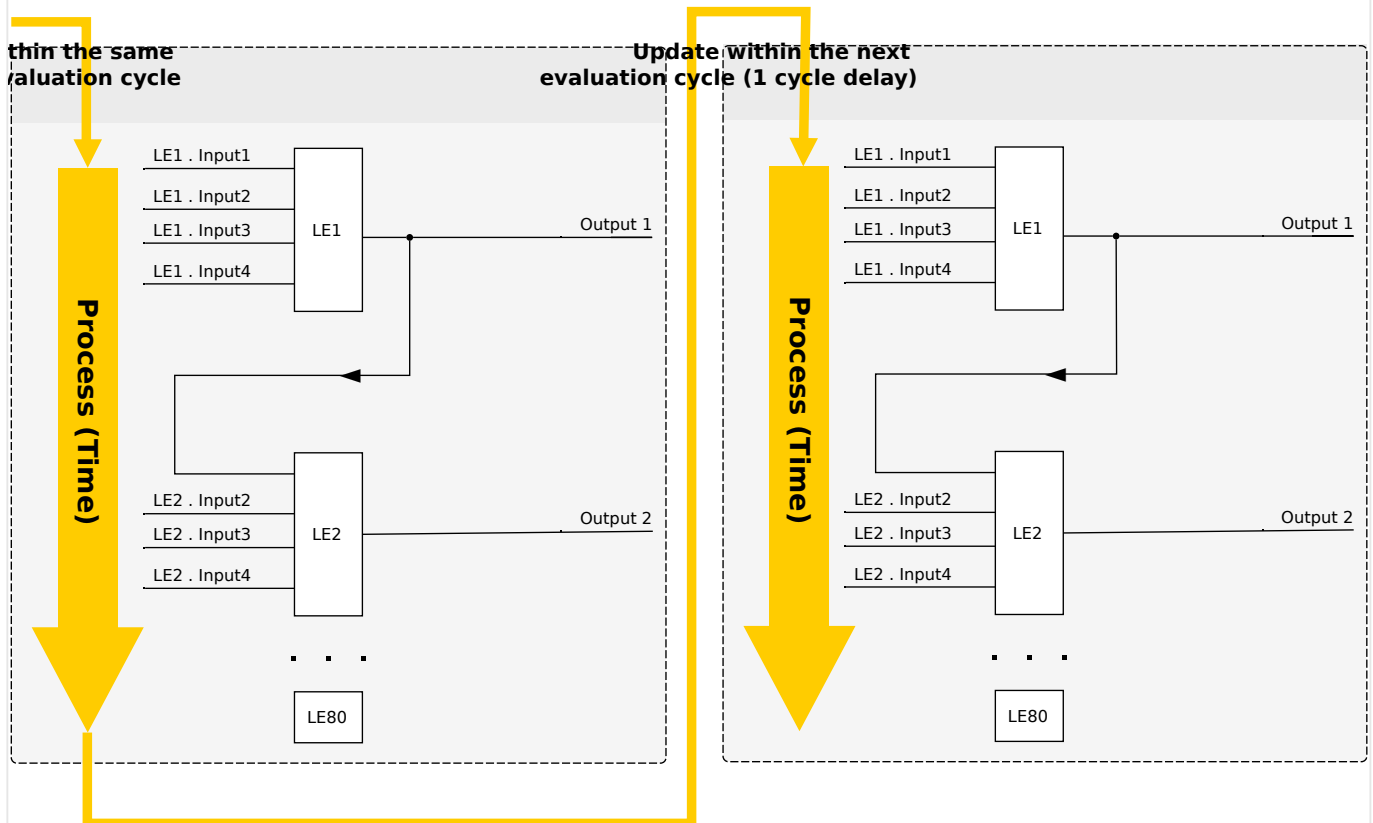
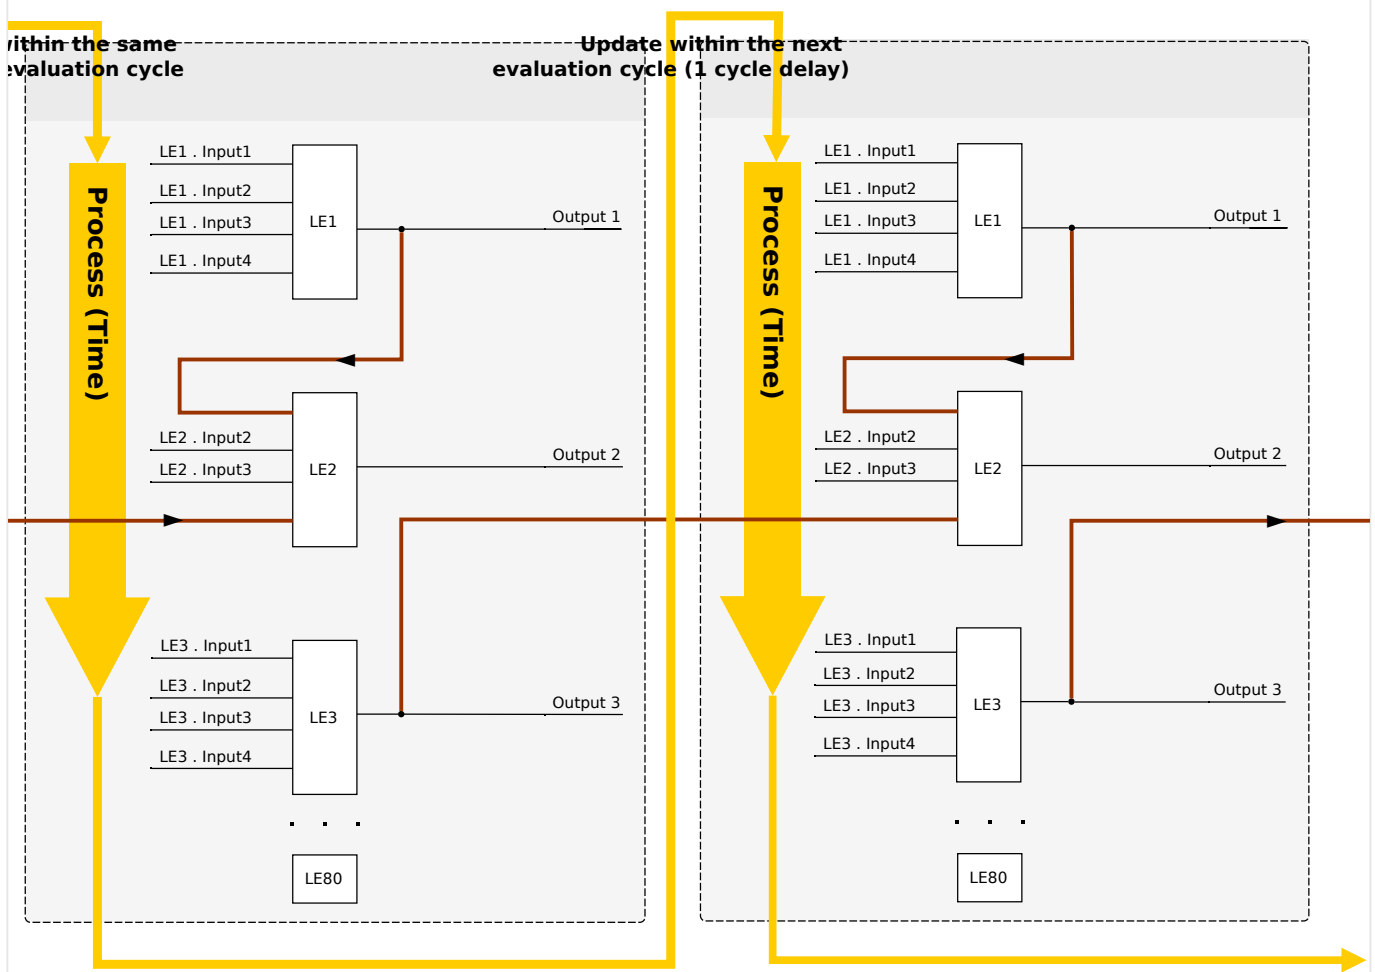

Fig. 160: Cascading in Ascending Order.
Fig. 161: Cascading in Descending Order.
- **Ascending** sequence means that some output is fed into the input of a logic equation with **higher** number. For instance, diagram ↪Fig. 160 below shows an example where the result of Logic Equation LE1 is used as an input of Logic Equation LE2.
- **Descending** sequence means that some output is fed into the input of a logic equation with **lower** number. For instance, diagram ↪Fig. 161 shows an example where the result of Logic Equation LE3 is used as an input of Logic Equation LE2.
Both ascending and descending sequences may be used and combined one with the other, with no immediate difference. However, due to the evaluation of all equations in ascending order the actual run-time values that are fed in at the input of an equation will have a different “age”, as is shown in ↪Fig. 160 and ↪Fig. 161 below.
In the example shown in Fig. 161 above, “Logic Equation 2” uses the output states of two other equations, “Logic Equation 1” and “Logic Equation 3”. The result of “Logic Equation 1” is used in ascending order and has therefore been evaluated within the same process cycle. The result of “Logic Equation 3” is used in descending order and has therefore been evaluated in the previous process cycle.